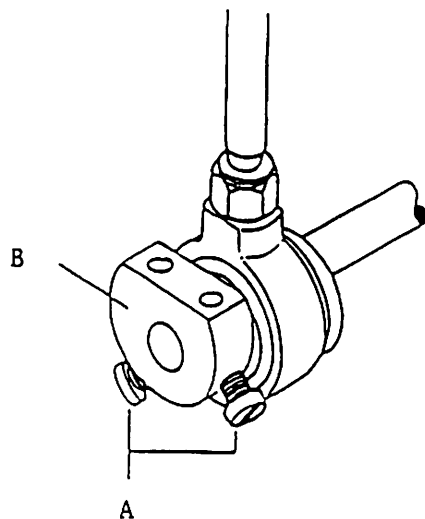

Fig.14
- a) Synchronization to needle bar (Fig 14)